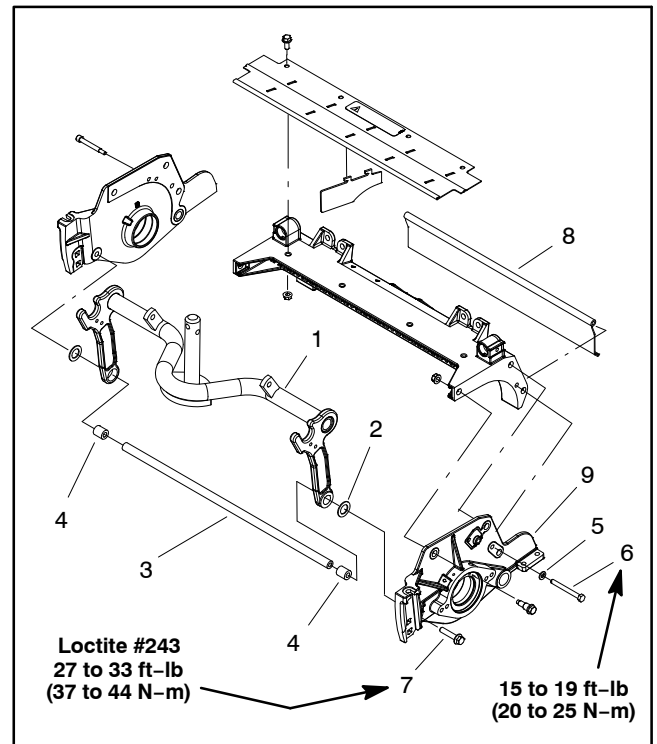

Figure 34
7. Remove cap screw and flat washer that secure rear grass shield to LH side plate (Fig. 34).
8. Remove flange head screw that secures support tube, frame spacer and carrier frame to LH side plate (Fig. 34).
9. Remove shoulder bolts (item 7) and flange nuts that secure the LH side plate to the cutting unit frame. Remove the LH side plate from the reel shaft, rollers, bedbar assembly and cutting unit frame.
4. Loosen set screw (item 20) and back-off (loosen) bearing adjuster nut one complete turn.
6. Install shoulder bolts (item 7) and flange nuts that secure the LH side plate to the cutting unit frame. Torque the shoulder bolts from **27 to 33 ft-lbs (37 to 44 N-m)**.
7. Apply Loctite #243 (or equivalent) to threads of flange head screw that secures support tube, frame spacer and carrier frame to LH side plate (Fig. 34). Install screw and torque from **27 to 33 ft-lbs (37 to 44 N-m)**. After tightening screw, check the clearance between the carrier frame and side plate. If clearance is more than 0.090" (2.3 mm), remove flange head screw and position shim(s) (part number 67-9410) between carrier frame and side plate so that clearance is less than 0.090" (2.3 mm). Make sure that the carrier frame pivots freely after assembly.
8. Install cap screw and flat washer that secure rear grass shield to LH side plate (Fig. 34). Torque screw from **15 to 19 ft-lbs (20 to 25 N-m)**.